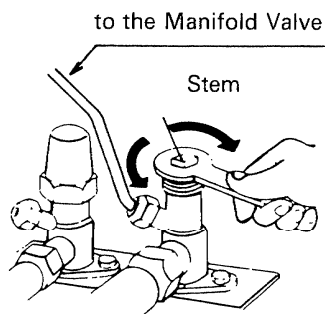

Fig. 9
- Remove the cap from the wide tube service valve and turn the stem gradually until it is back seated. Fig. 9